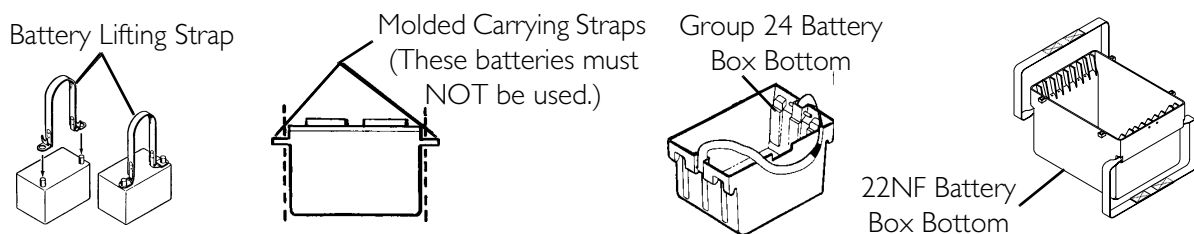

FIGURE 10.1 Installing/Removing Batteries Into/From Battery Boxes
NOTE: For this procedure, refer to FIGURE 10.1 on page 91.
3. Secure battery lifting strap to battery terminal(s)/post(s) (FIGURE 10.1).